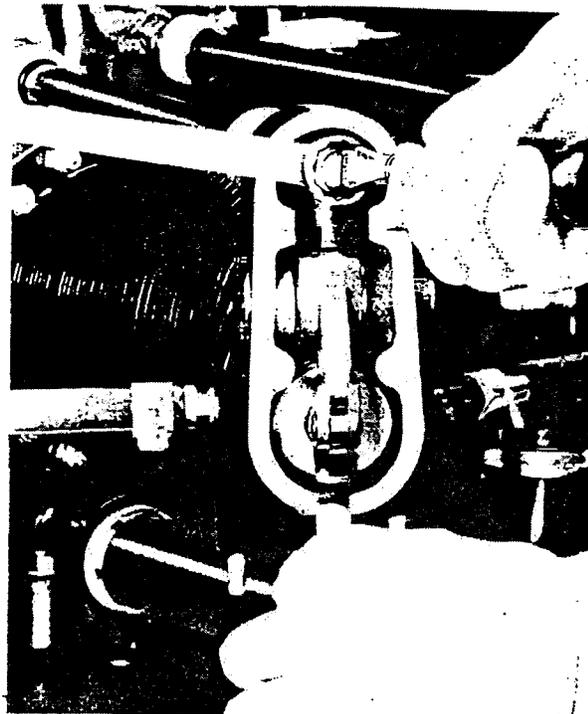

Figure 42 - Adjusting Valve Clearances
(1) Remove wire holding the intake and exhaust tappets for No. 1 cylinder. Turn the engine stand so that the crankshaft is horizontal, and turn the crankshaft one revolution in either direction to get the piston in the No. 1 cylinder on top center at the end of the compression stroke. (Both valves closed). Insert intake and exhaust push rods for the No. 1 cylinder.
(2) Insert the intake and exhaust valve adjusting screws into the rocker arms and adjust and lock to the hot clearances of .040" for the exhaust valve and .035" for the intake valve.
(3) Valve clearances are checked at the tips of the valve stems. Refer to Figure 42.
(4) Place Spline Wrench (Tool No. T-340)